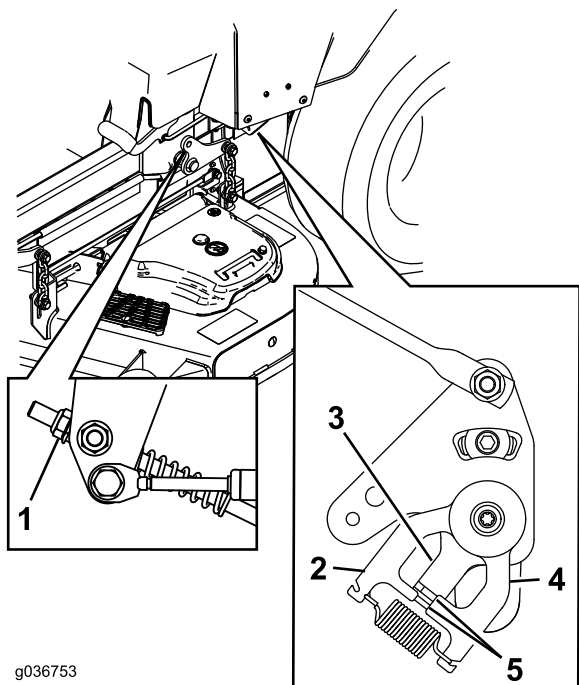

Figure 59
- Adjust the pump-control-rod lengths by rotating the nut in the appropriate direction until the wheels slightly creep in reverse (Figure 59).